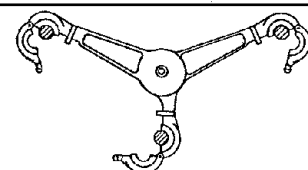

Figure 4
5. Position the spacer damper on the conductors as illustrated in Figure 4. The clamp arms will rest on, and should be perpendicular to, the conductor.